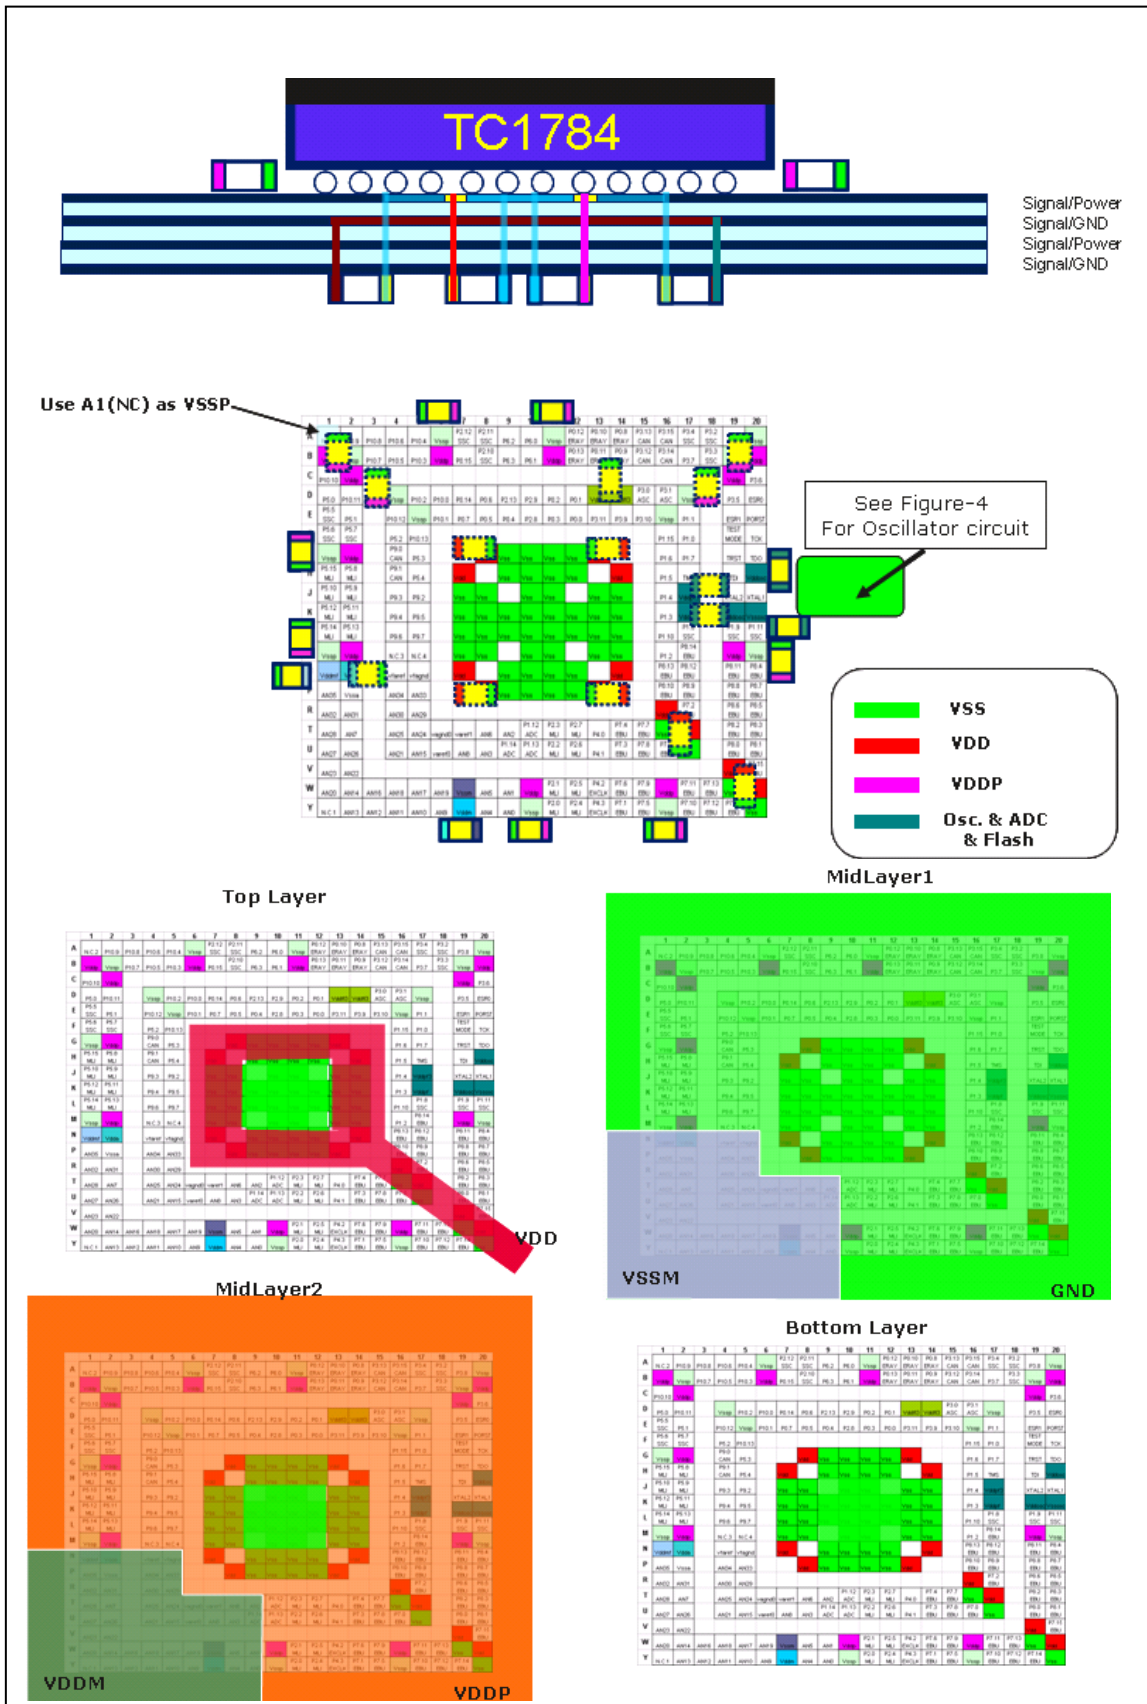

Figure 3 Layout example for decoupling of TC1784 (BGA-292)
- The two supply domains VDD and VDDP of TC1784 should be decoupled separately. Figure 3 shows an example placement of decoupling capacitors. The decoupling capacitors for VDDC domain should be referenced to the GND area of center pad area in order to get a smaller current loop. The remaining decoupling capacitors for VDDP should be referenced to GND-Balls of the package. (See decoupling layout example in Figure 3).
A power-plane/grounding concept example for a 32-bit microcontroller like TC1784 with BGA-292 package can be seen in Figure 3. Alternative implementations are also acceptable and must be evaluated within application by customer.